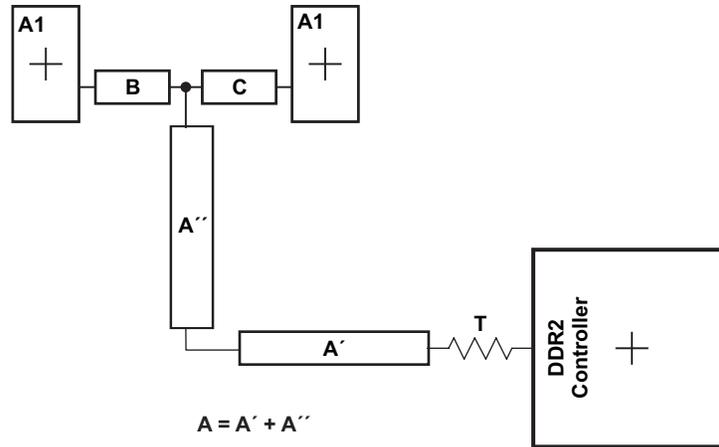

Figure 8-52. CK and ADDR_CTRL Routing and Topology
Figure 8-52 shows the topology of the routing for the CK and ADDR_CTRL net classes. The route is a balanced T as it is intended that the length of segments B and C be equal. In addition, the length of A (A'+A'') should be maximized.
- (1) The length of segment A = A' + A'' as shown in Figure 8-52.
- (2) Series terminator, if used, should be located closest to the DSP.
- (3) Center-to-center spacing is allowed to fall to minimum (w) for up to 500 mils of routed length to accommodate BGA escape and routing congestion.
- (4) CACLM is the longest Manhattan distance of the CK and ADDR_CTRL net classes.